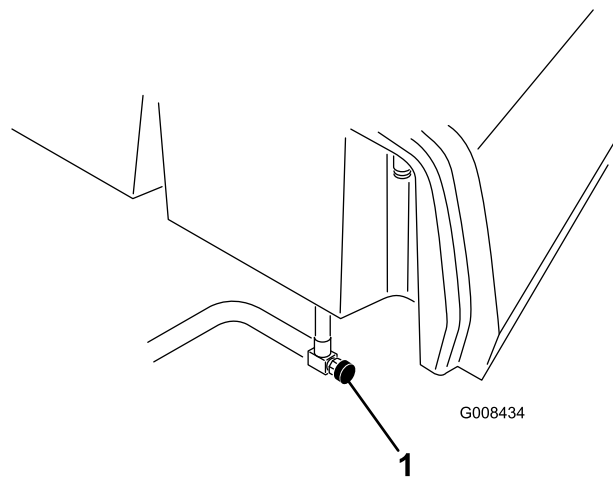

Figure 46
1. Close the fuel shut off valve (Figure 46) below the fuel tank.